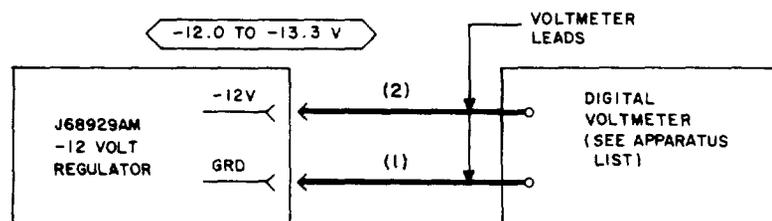

Fig. 3—Connections—Carrier Supply -12 Volt Regulator Test
2	At the front of the bay, connect the DVM to the GRD and -12V jacks on the -12 volt regulator under test [connections (1) and (2), Fig. 3].
5	Remove connections (2) and (1), Fig. 3.